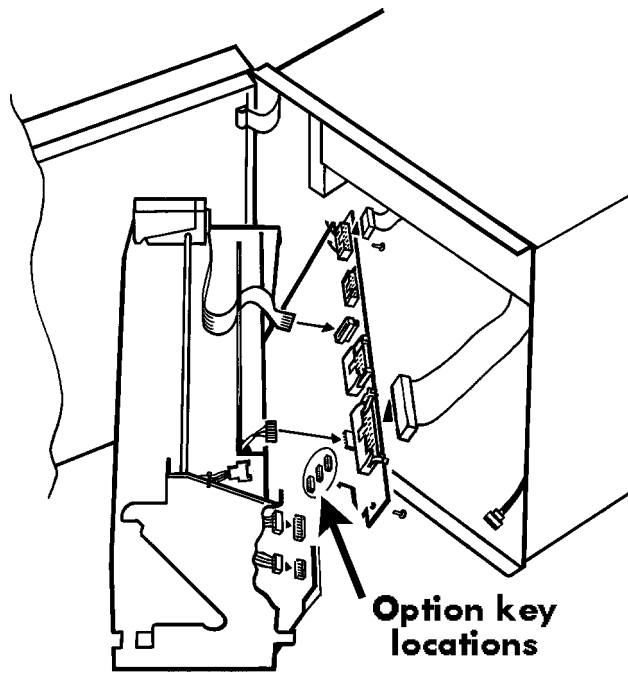

Figure 4.7.3e Option key locations
13. At the writing system, if either of the archiving options has been purchased, then the associated option key should be fitted now (figure 4.7.3e). (Release only as many connectors as are necessary to allow access to the option key locations)
15. Fit the replacement 9-way D-type connector, passing the control board connector under the motor pinion bracket as shown in figure 4.7.3e. Connect the harness from the D-type to the control board.